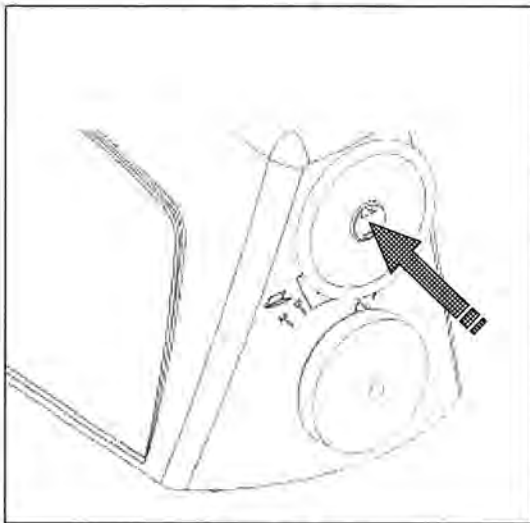

Figure 5
3. Install the dejamming handle onto the D-shaped shaft through the hole on the right side of the folder cover, just above the paper stop adjustment knob (Figure 5).